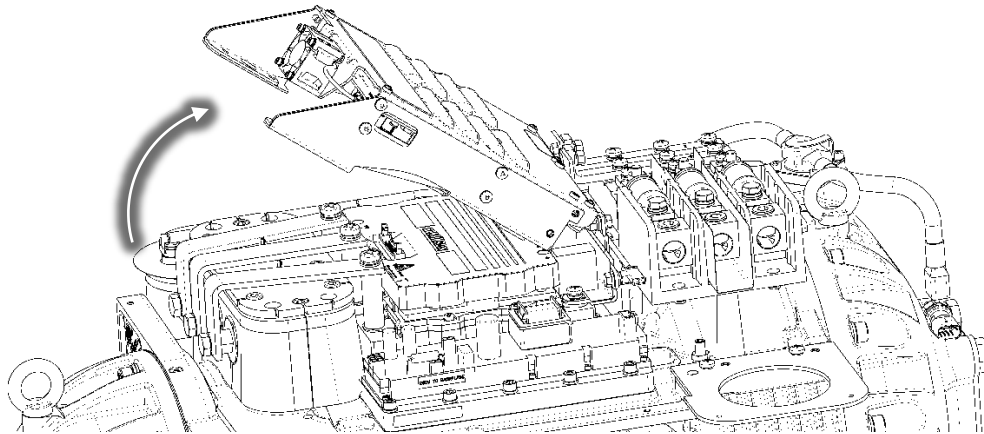

Figure 3 – Soft Start Lift
10. Lift the Soft Start and turn it over, placing it board-side up on the AC Bus Bars. Refer to Figure 3 (Soft Start Lift).